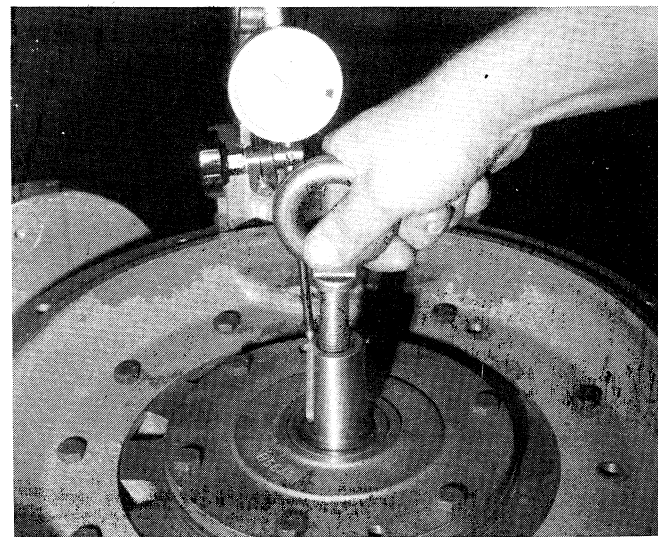

Figure 9-8. Applying pushing force while dial indicating end play of input shaft.
4. Install an eyebolt into the front of the input shaft and apply 60-100 lbs. downward pressure while rotating the input shaft several revolutions in each direction. See Figure 9-8.